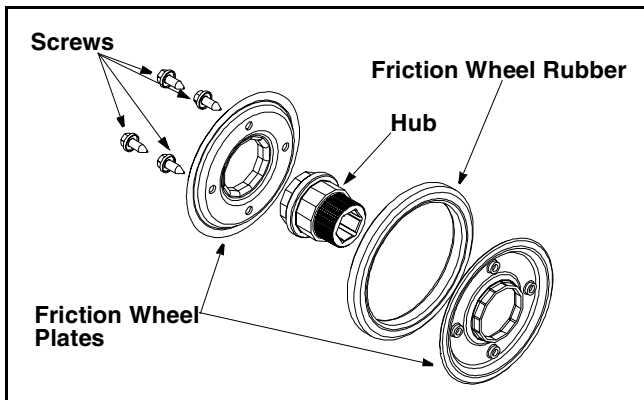

Figure 21
- Remove the four screws from the friction wheel assembly. Remove the friction wheel rubber from between the friction wheel plates. See Figure 21.